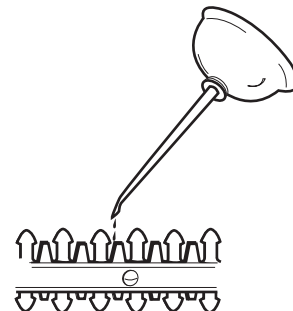

Fig. 11
2. Apply a light machine oil along the edge of the top blade (Fig. 11). Apply oil along the full length of the blade.